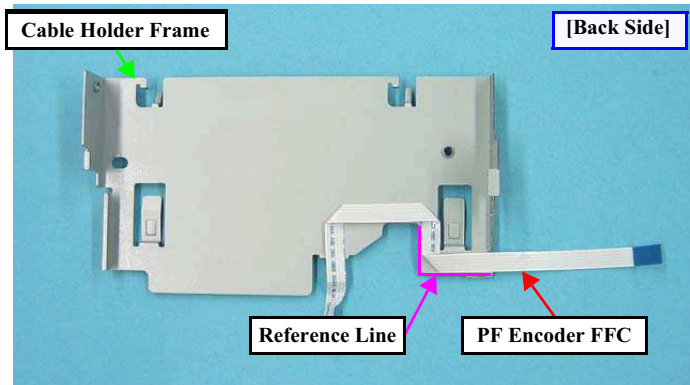

Figure 4-74. Removing the PF Encoder FFC
- When installing the Cable Holder Frame, attach the PF Encoder FFC along with the reference line shown in Fig.4-74 \(p.81\).